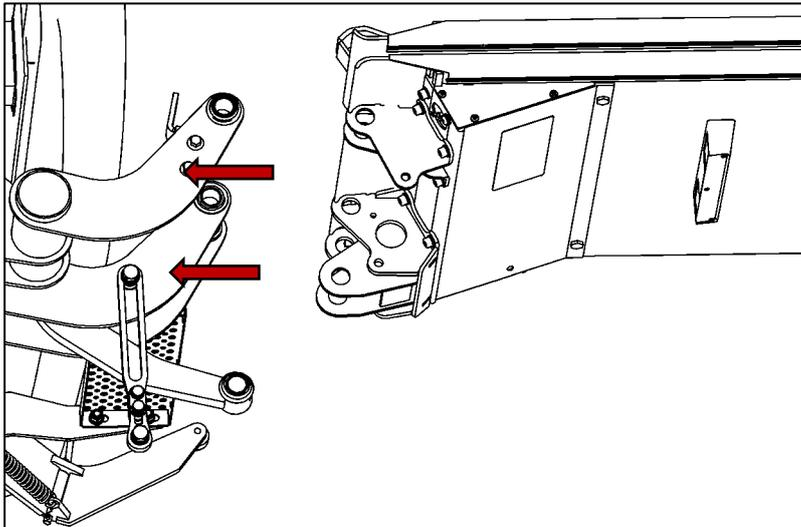

Figure 54
- Align the top bearing points of the platform (platform attachment points) with the swing-arm bearing points (top attachment points of the lifting gear) (see Fig. 54).